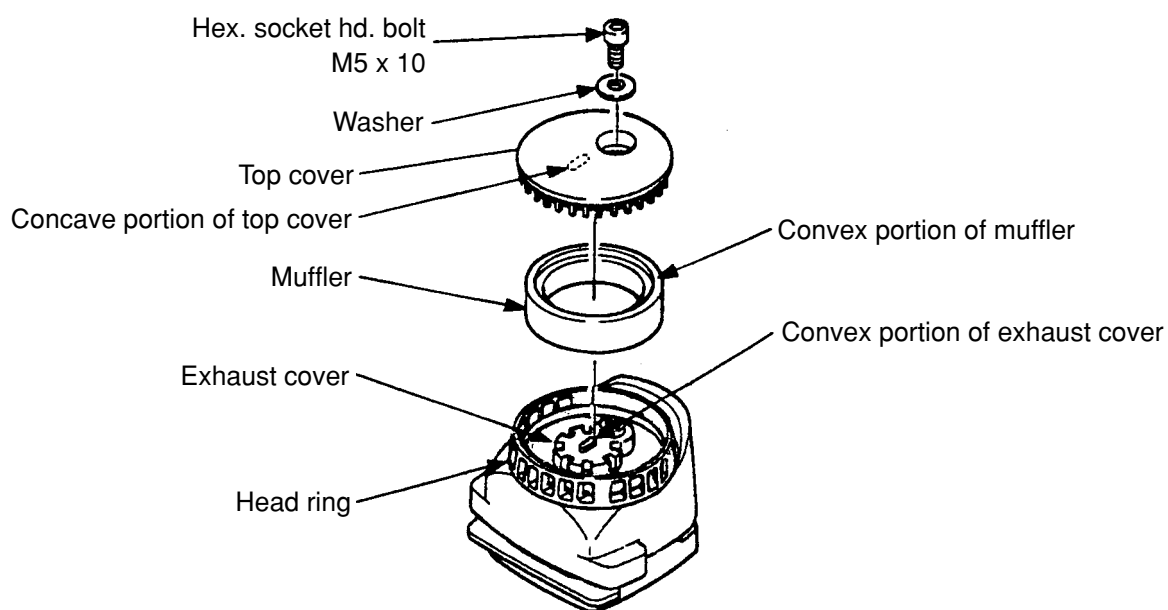

Fig. 3 Mounting of muffler
(2) Muffler
The muffler is provided as an optional accessory for the Model NV 45AC. By mounting this muffler, the exhaust sound is reduced by about 10 dB (A). Please recommend the muffler to customers who may want to use it. The muffler can be mounted according to the following procedure as shown in Fig. 3.